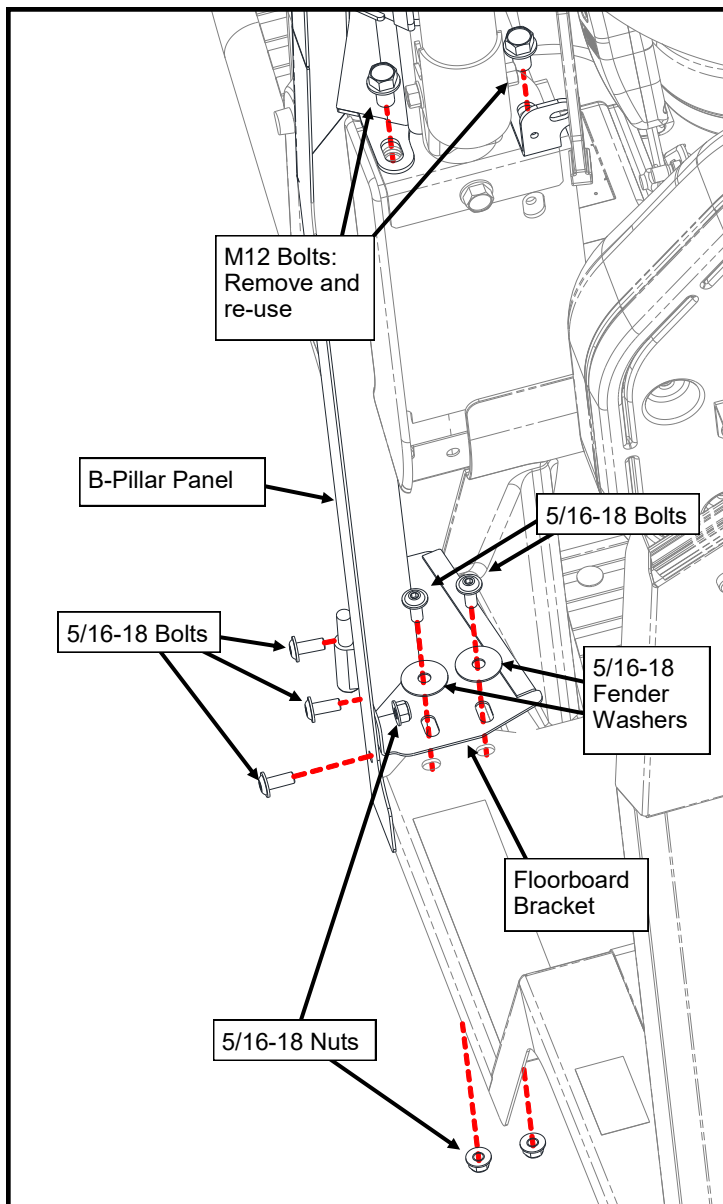

Figure 6.1: B-Pillar Center and Lower Bolts
- 6.1 For each side, remove and retain both M12 bolts at the base of the center, side pillar of the ROPS (see Figure 6.1)
- 6.5 Install a floorboard bracket at the corner above the floorboard and inside the B-pillar (see Figure 6.1). Attach the bracket to the B-pillar with three 5/16-18 X 3/4" flanged button head bolts and nuts inside. Push the B-pillar against the floorboard to remove any gap and secure the bracket to the floorboard with two 5/16-18 X 3/4" flanged button head bolts and nuts underneath. Tighten snug but do not apply final torque.